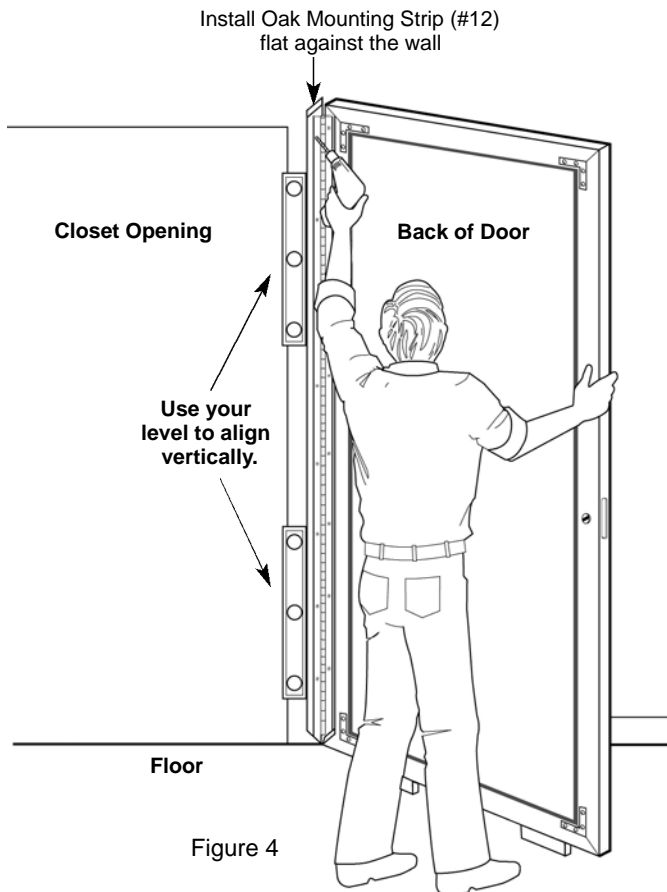

Figure 4
- While holding the Wardrobe Door (#1), open the Wardrobe Door (#1) completely. Move the set blocks to support the Wardrobe Door (#1) until the door is fastened to the wall. See Figure 4. Use the Level against the Oak Mounting Strip (#12) to check the plumb. Add or delete shims if necessary.